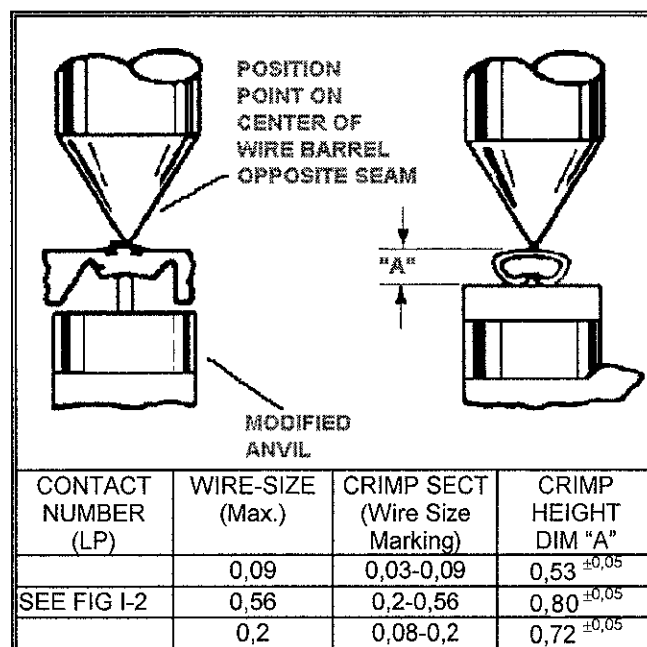

Figure II-1
This inspection requires the use of micrometer with a modified anvil as shown in Figure II-1.
1. Refer to the chart in Figure II-1 and select a contact and a wire (maximum size) for each crimp section listed in the chart.
3. Using a crimp height comparator, measure wire barrel crimp height as shown in Figure II-1. If the crimp height conforms to that shown in the chart, the tool is considered dimensionally correct. If not, return the tool to AMP for evaluation and repair.